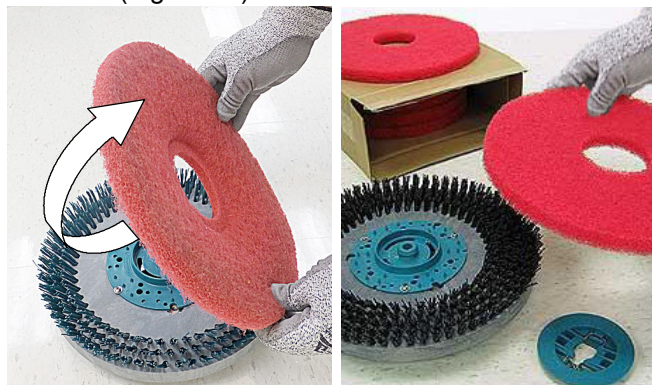

FIG. 87
5. Disk scrub head - Turn pad over or replace when worn (Figure 87).